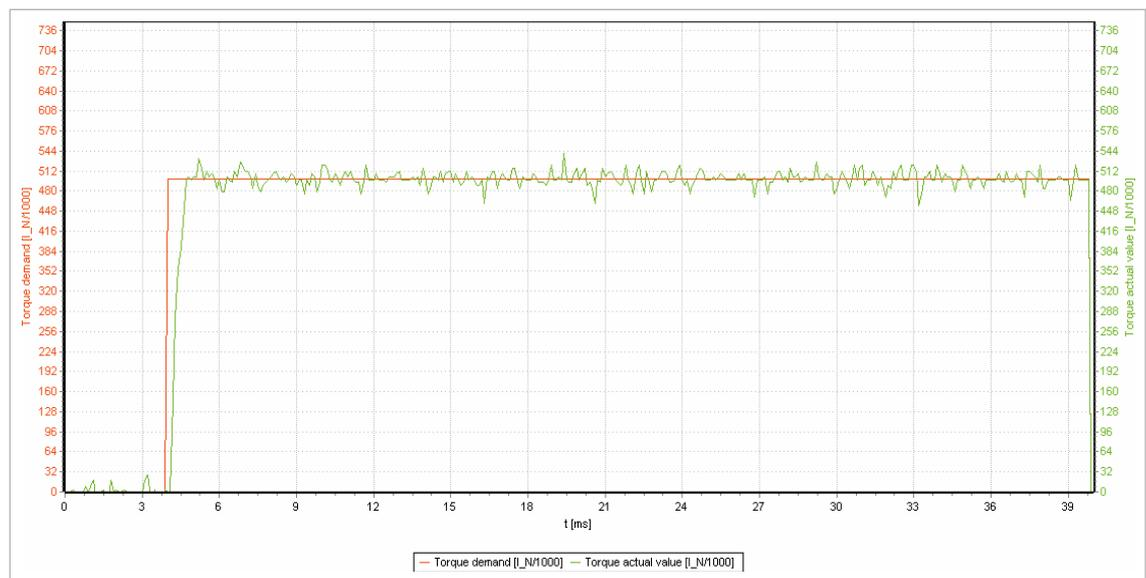

Fig. 8: Set-point jump at the torque control
**i** For manual optimization of the current controller, apply set-point jumps to the current controller with the motor braked to a standstill, and adjust the two controller gains  $K_{P,i}$  for torque and field controller via objects 0x2342.01 and 0x2343.01 in a similar manner (see Fig. 8).